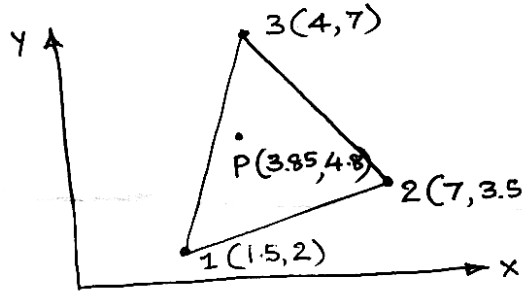

Fig Q 4C
- c. Evaluate the shape functions N_1 , N_2 and N_3 at the interior pint P for the triangular element shown in Fig. Q 4C. 6